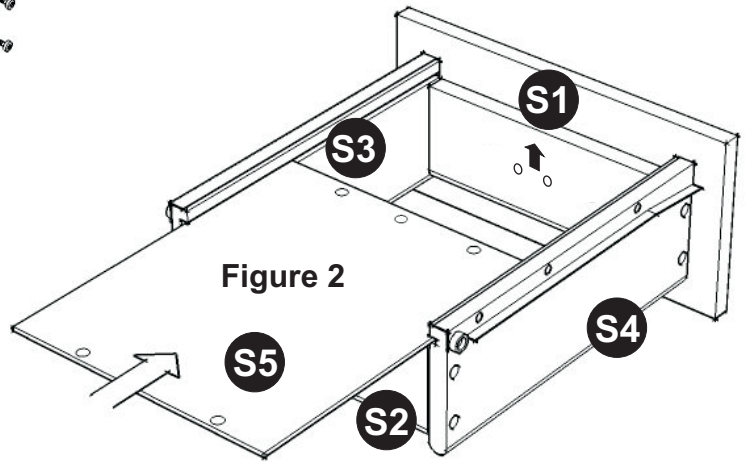

Figure 2
(Figure 2)
Assemble Pull Handles to Door (Q) and (R) with Machine Screws.(see Figure 2)
Slide S5 into the grooves in S3 and S4. Be sure to push S5 all the way forward to it meets S1. (see Figure 2)